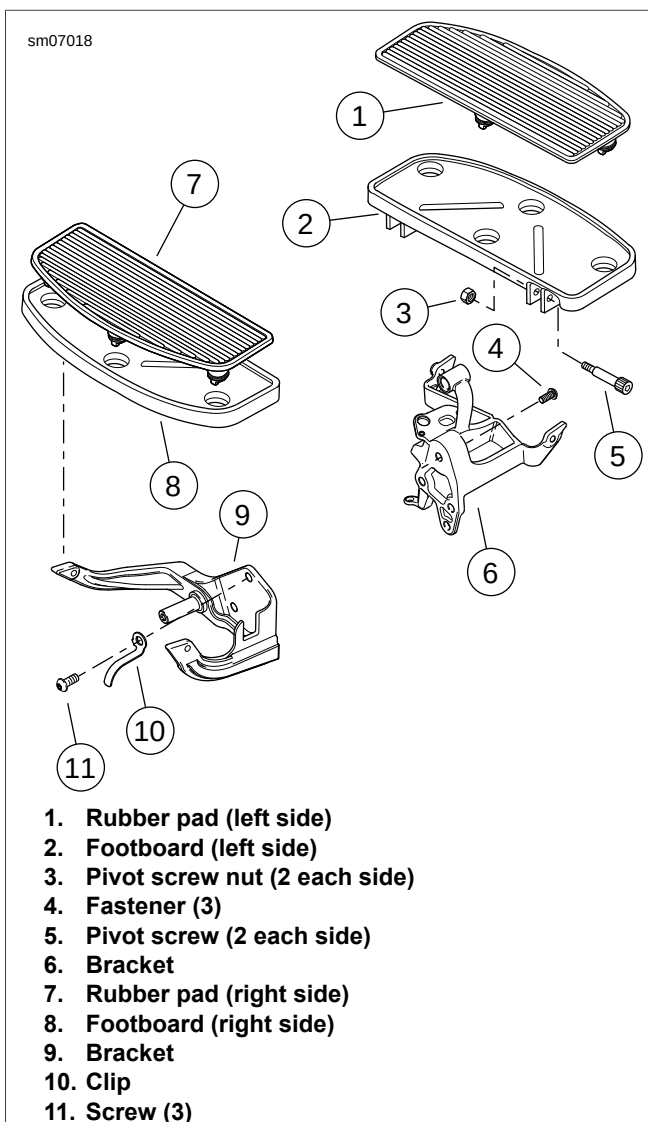

Figure 2-122. Rider Footboards (Typical)
1. See Figure 2-122. Remove pivot screws (5) and nuts (3).
1. See Figure 2-122. Install footboard and secure with pivot screws (5) and nuts (3).